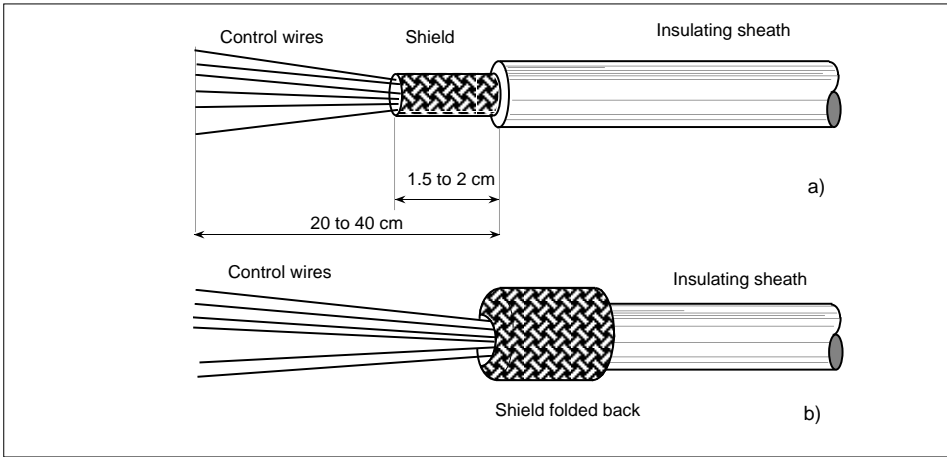

Figure 3-3 Control cable stripping
- **Strip** the shielded cable as shown in figure 3-3,a.
- **Fold back** the shield on the insulating sheath (figure 3-3,b)